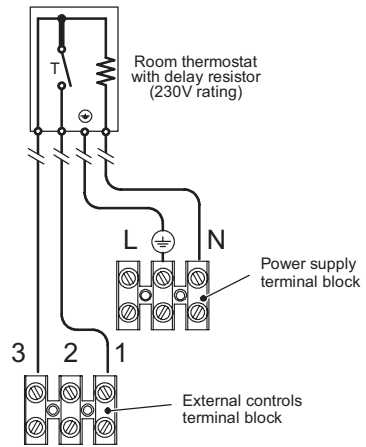
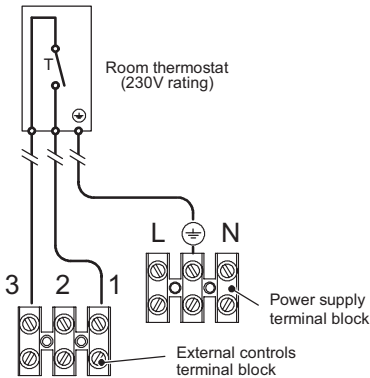

Fig. 6.17
Fig. 6.16
- Connect the electrical supply flexible cord coming from the fused spur isolation switch to the power supply terminal block of the boiler (Fig. 6.16) keeping the same connections for the live (brown wire) and the neutral (blue wire). External 3 A fuse or fused plug with same current rating is recommended. **Do not connect live wires to terminals to which the room thermostat must be connected.**
- Connect the room thermostat between terminals 1 and 3 as shown in Fig. 6.16 or Fig. 6.17.